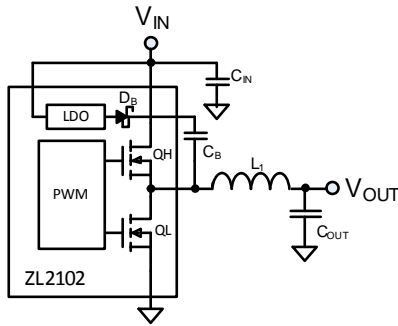

FIGURE 8. STEP DOWN CONVERTER
8. Refer to Safe Operating Area in Figure 8 and thermal design guidelines in AN2010.
The ZL2102 operates as a voltage-mode, synchronous buck converter with a selectable constant frequency pulse width modulator (PWM) control scheme. The ZL2102 integrates dual low $R_{DS(ON)}$ synchronous MOSFETs and a high side driver to minimize the circuit footprint. The Figure 8 illustrates the basic synchronous buck converter topology showing the primary power train components. This converter is also called a step-down converter, as the output voltage must always be lower than the input voltage.